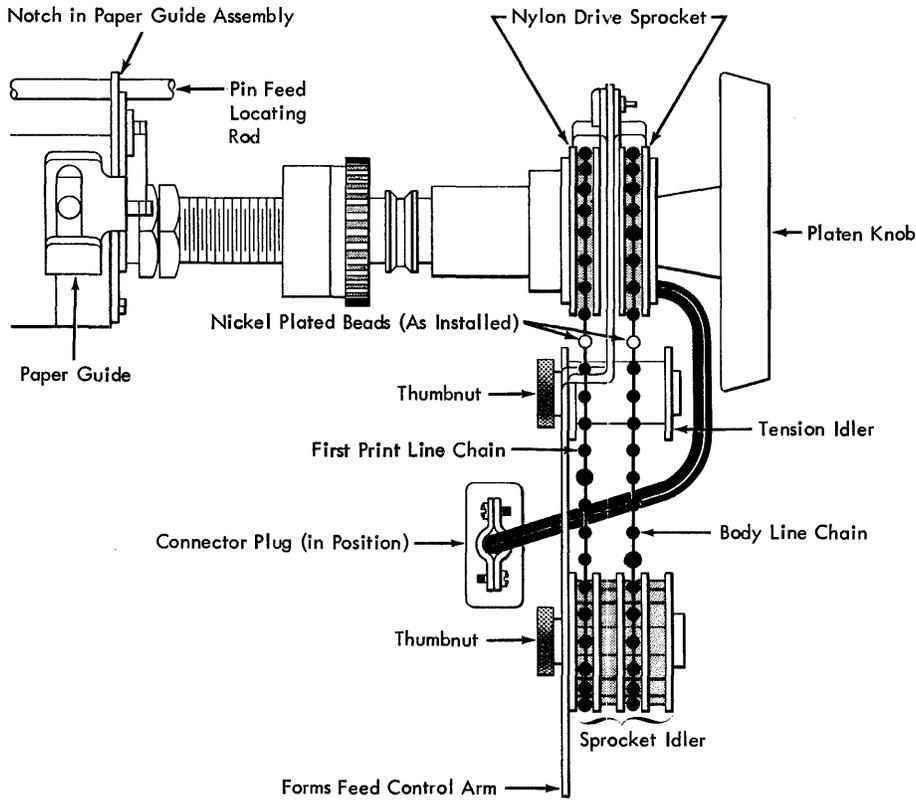

Figure 22. Top View of Forms-Feed Control Device
2. Lift the top cover, unlatch and lift the forms feed control arm, shown in Figures 22 and 23. (It has two idlers and is located at right end of platen.)
11. Replace the platen (if pin feed, the notches in the paper guide shown in Figure 22 must engage the pin feed locating rod behind the platen). The platen latches click when the platen is in place.